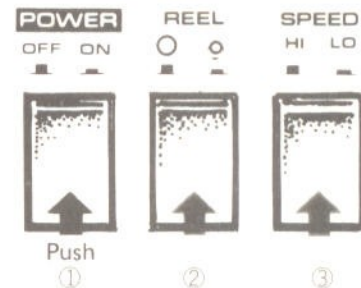

Fig. 19
1. Push the POWER switch to turn the unit on. (Fig. 19). The level meters light up and the capstan begins to rotate. Note, however, that the tape must be taut—with slack tape, the capstan will not rotate.
2. Confirm that the REEL SIZE switch is properly set (Fig. 19). When using 7-inch or smaller reels, push the REEL SIZE switch in. For 10-inch reels, do not push it in. To release this switch when it's locked, push it once again.
3. Set the TAPE SPEED selector to the speed at which the tape was recorded (Fig. 19).